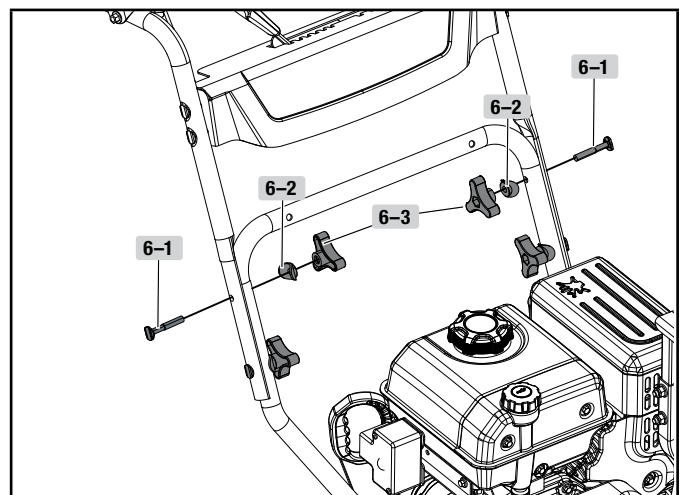

Figure 6
2. Connect the last 2 bolts (6-1), 2 washers (6-2) and 2 locking knobs (6-3) on the top (Fig. 6). Fully hand tighten all four locking knobs.